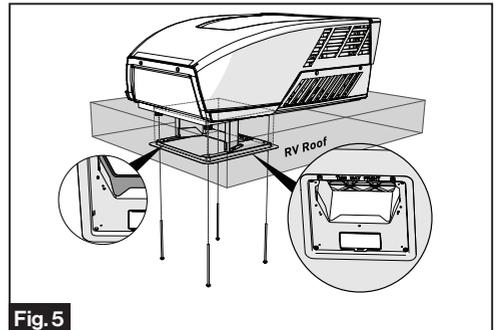

Fig. 5
4. Fix the assembled mounting frame and lower duct divider into the rooftop unit using 4 bolts provided. (Fig. 5)